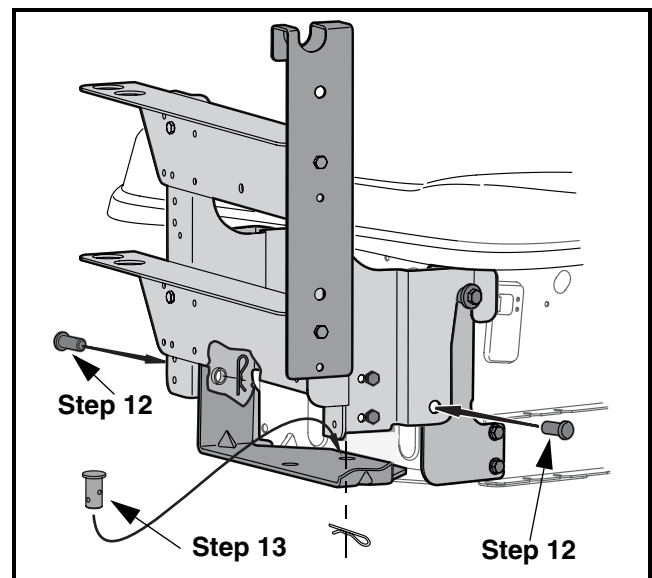

FIGURE 7
12. Install the two (2) Clevis Pins, Item 3, as shown in Figure 7 and secure with Internal Cotter Pins, Item 5, supplied in this kit, securing the catcher support assembly to the new FastAttach Mounting Brackets.
13. Locate the 5/8" diameter clevis pin and .148" diameter internal cotter pin from the Twin Grass Bagger Attachment package and install it as shown in Figure 7.